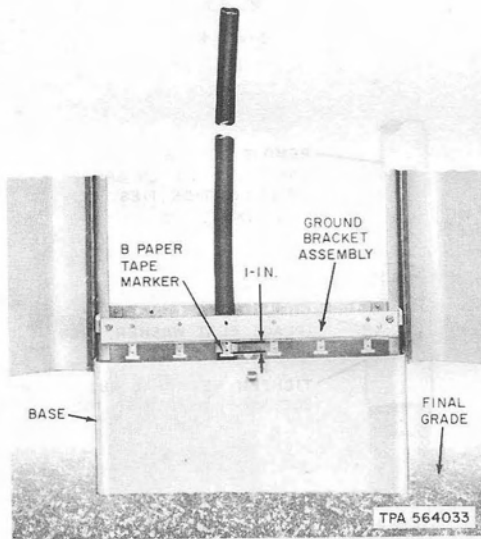

Fig. 26—Marking Cable for Sheath Opening
- 7.01** Place the cable against the ground bracket centered on the hole in the ground bracket where the bond clamp will be installed. Mark the sheath 1/4-inch above the ground bracket, and place a B Paper Tape Marker on the sheath (Fig. 26).